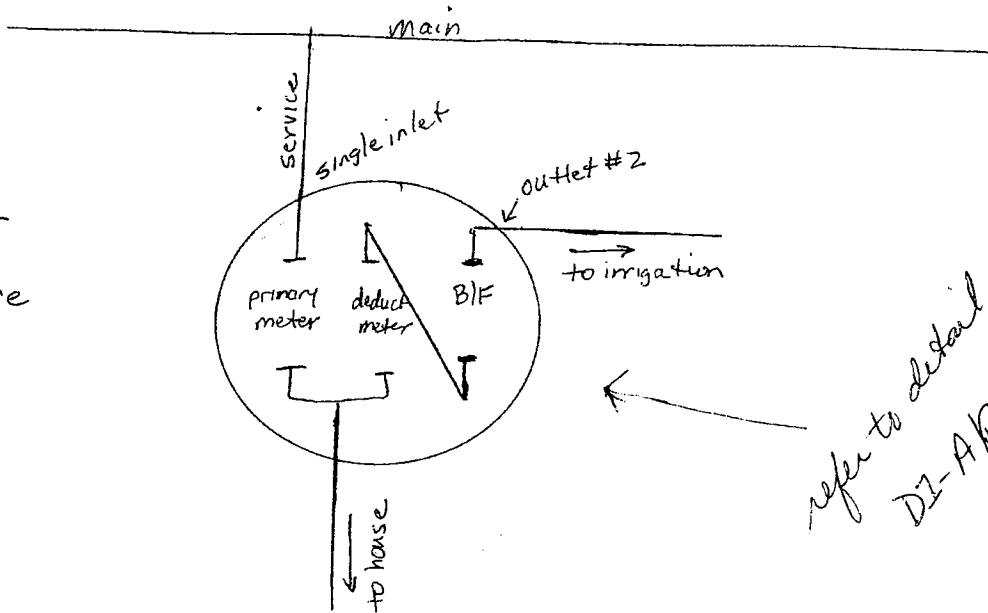
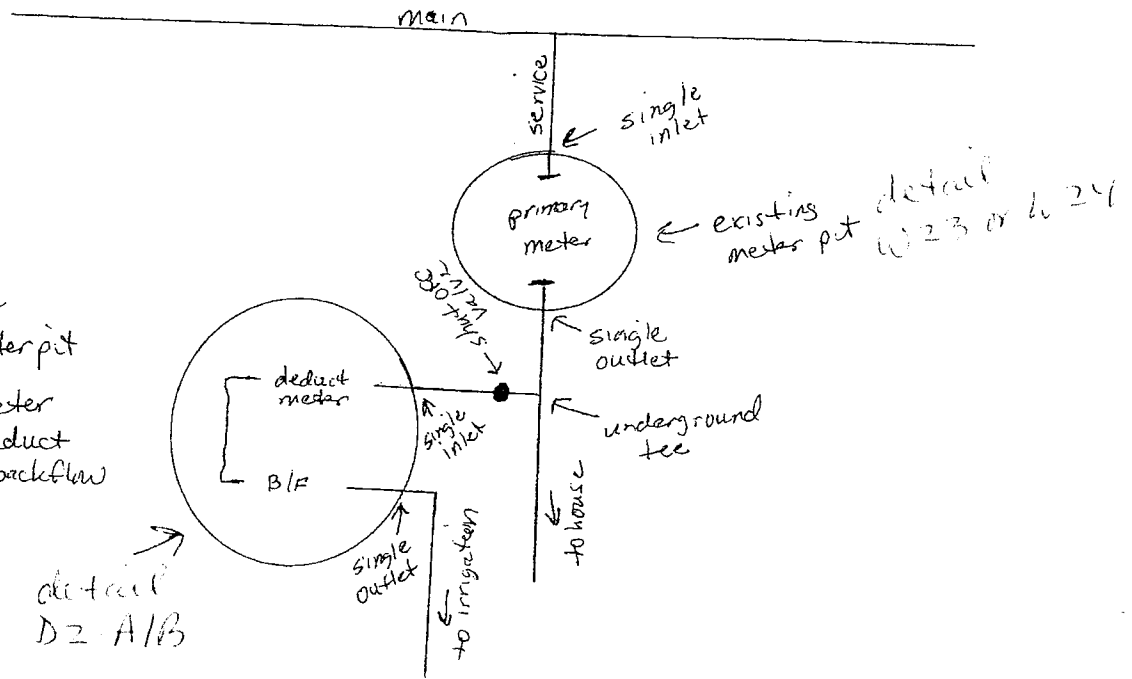

Figure 2
Figure 3
- property owner hires plumber to install second meter pit after primary meter pit (figure 2/detail D2-A/B)
- after primary meter pit, plumber installs underground tee to second meter pit. Recommend shut off valve on irrigation side of the tee for purposes of draining irrigation system. Underground tee must be inspected by Authority personnel before backfilling (figure 2/detail D2-A/B)
- second meter pit contains deduct meter and testable backflow device (figure 2). RPZ backflow devices are prohibited in meter pits
- Alternative to second meter pit is to install “hot box”, which typically is heated to keep from freezing. Hot box does not need to be heated if equipped with appropriate fittings and ball valves for winterization. Hot box will contain the deduct meter and backflow device. RPZ backflow devices can be used with hot box installations (figure 3/detail D3-A/B)
- Meter must be relocated to either a dual meter pit (figure 1/detail D1-A/B), two separate pits (figure 2/details W23 or W24 and D2-A/B), or single meter pit with hot box for deduct meter and testable backflow device (RPZ backflow device can be used in hot box installations) (figure 3/details, W23 or W24 and D3-A/B). Cost to relocate meter to pit \$130, if not an RF meter, must be upgraded, add \$88. Plumber provides and installs meter pit(s) or hot box at customer cost.
- For double pits refer to figure 2/details W23 or W24 and D2-A/B